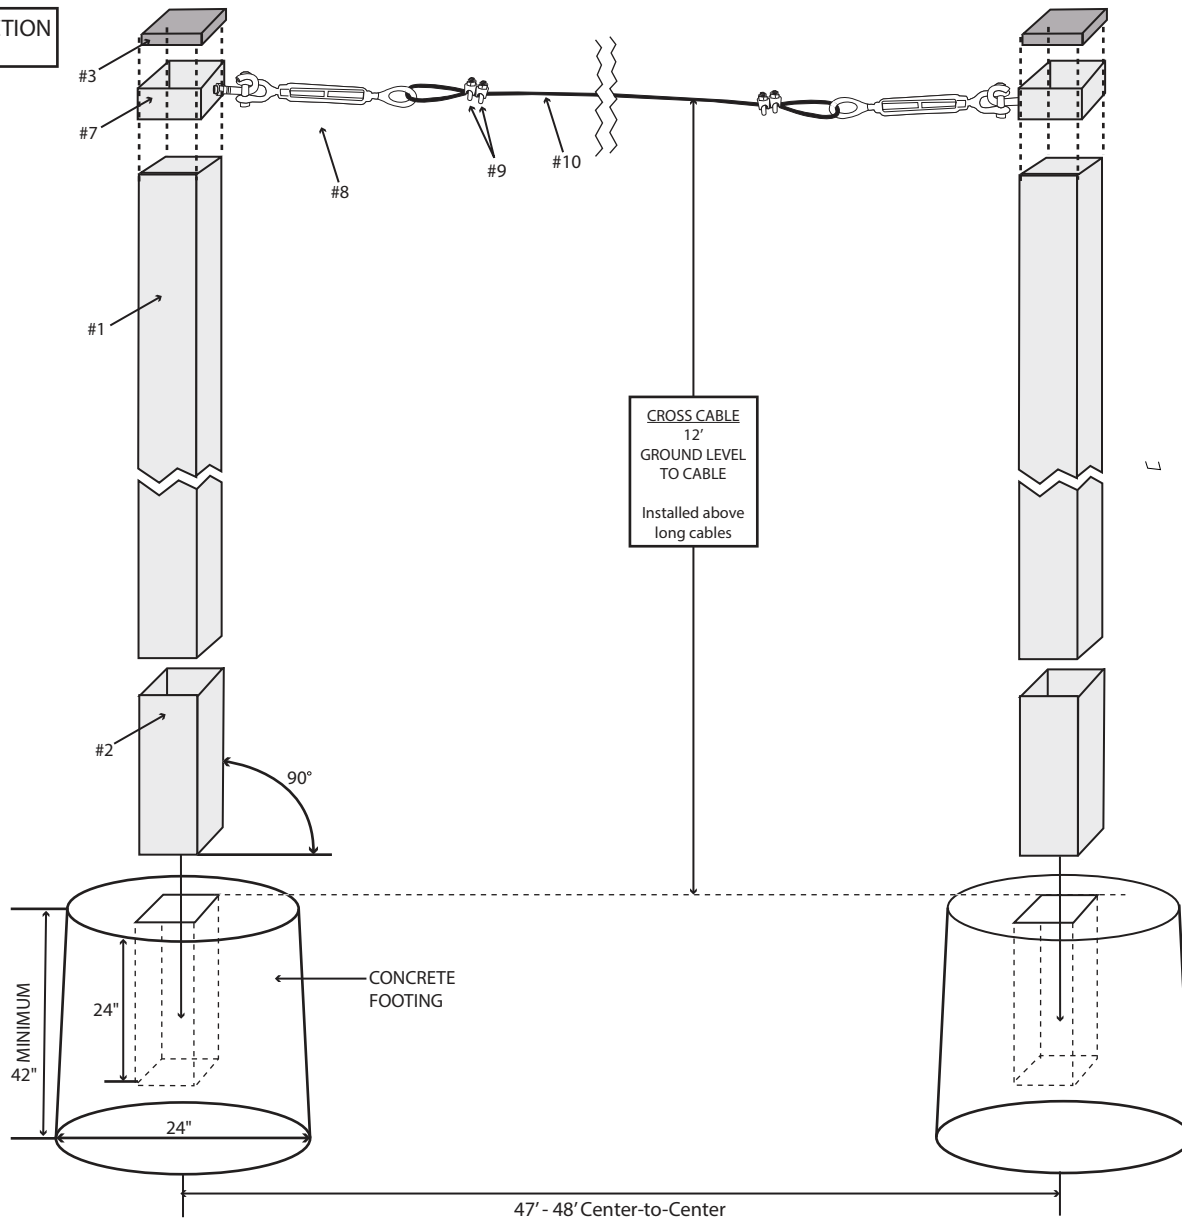

FIGURE 4 - TUNNEL ATTACHMENT WITH LONG CABLES
5. Starting at one corner attach the top ropes of the net to the cables with carabiner clips, spaced every 3' per Figure 4.